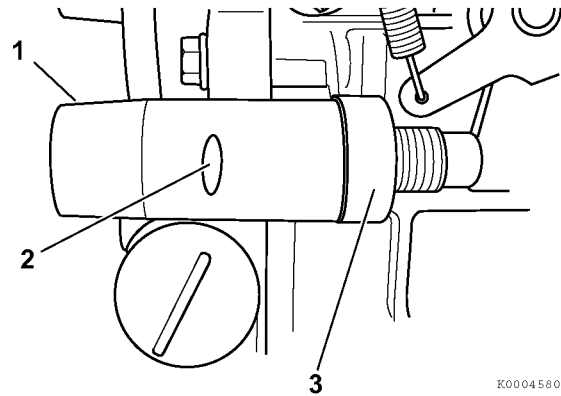

Figure 7-22
3. To remove the tamper-proof cover from the fuel limiter, use a hacksaw or a cut-off wheel to carefully make a small slot (2, **Figure 7-22**) in the side of the tamper-proof cover (1, **Figure 7-22**).
*Note: Be careful not to damage the cylinder block boss (3, **Figure 7-22**) when removing the tamper-resistant cover.*